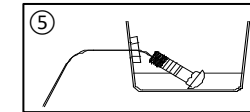

Figure 2
- 2. Remove passenger side (RH) dust panel**- Using a flathead screwdriver, remove (2) plastic rivets and using 10 mm socket remove (1) nut. Return to vehicle owner.
- 3. Install hitch-** **(a)** Install carriage bolts. Remove rubber plugs in frame access holes located on the underside of the frame forward from the mounting holes. Feed 7/16" bolts ① and spacers ② through access holes using pull wires ⑤ through mounting holes located on the outside face of the frame on both sides, see **Figure 2**, and leave pull wire attached. **(b)** Raise hitch into position. Slide wires and bolts through mounting holes of the hitch and remove pull wire, loosely secure conical washer ③ and 7/16" nuts ④, see **Figure 1**